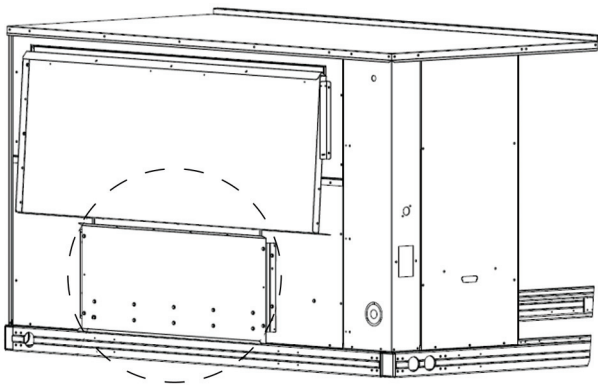

Fig. 15 — Shipping Location, Vertical Units
1. Remove the hood top panel from its shipping position on the unit end (see Fig. 15).